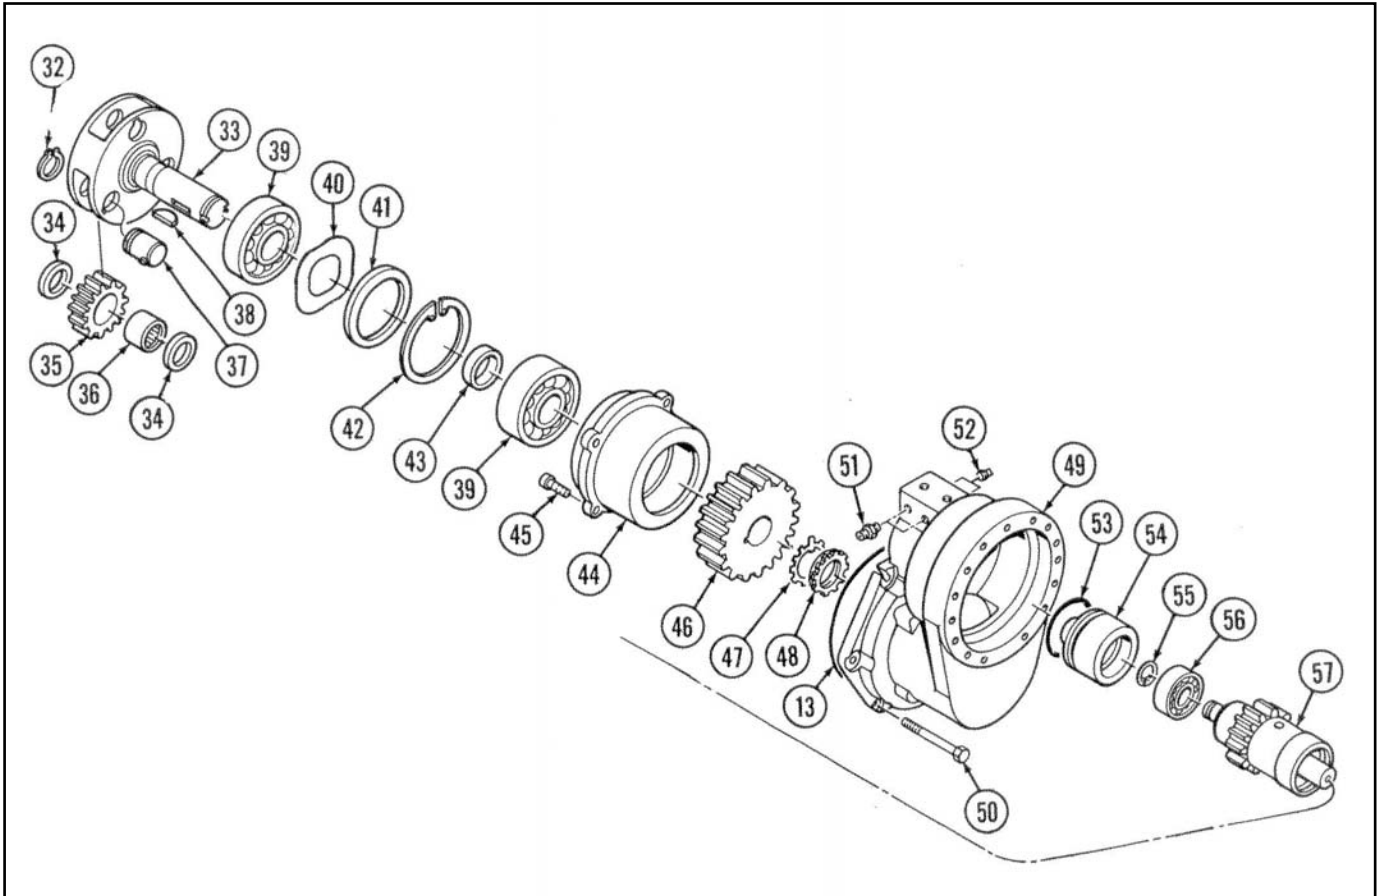

Figure 4. Gearbox Housing Assembly
The gearbox housing assembly, refer to figures 4, consist of a planet gear carrier shaft (33), three planet gears (35), needle bearings (36), gear spacers (34), and planet pins (37).